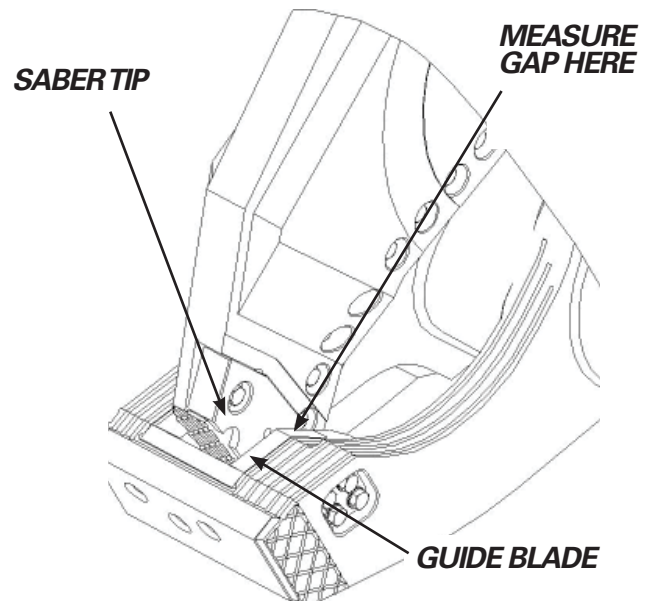

FIGURE 5-8
1. Close the shear until the Saber Tip on the upper shear begins to bypass the guide blade (see **Figure 5-8**). Use a feeler gauge to check the gap and record it. Close the shear in steps and check the gap at different spots along the Saber Tip surface.